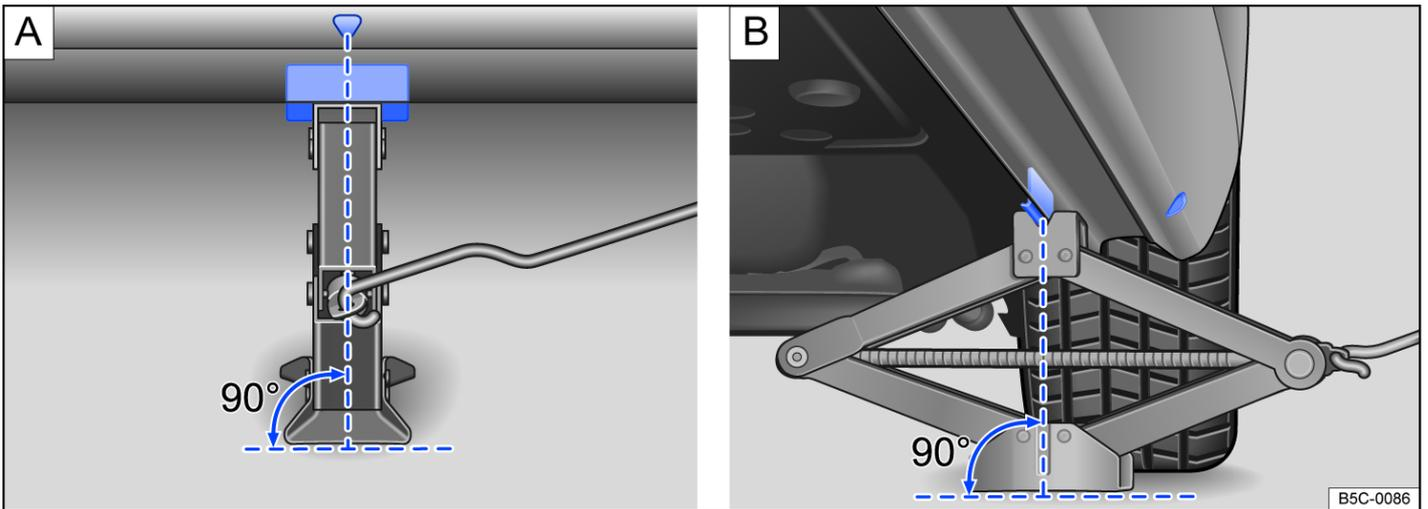

Fig. 2 Jack applied at the rear left-hand side of the vehicle.
9. Ensure that the entire surface of the foot of the jack is resting securely on the ground and that the foot of the jack is positioned vertically directly beneath the point of application → Fig. 2 A and B.
10. Position the jack and simultaneously continue to crank the claw up until it is in position around the jacking point underneath the vehicle → Fig. 2.
- Apply the jack only at the points described. The jack claw must grip the vertical rib under the side member securely → Fig. 2.